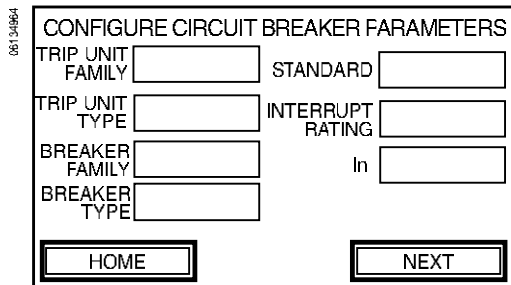

Figure 13: Configure Circuit Breaker Parameters Screen
- Once all parameter values have been entered and confirmed on the Configure Circuit Breaker Parameters screen (Fig. 13), press NEXT to advance to Select Circuit Breaker Test screen.